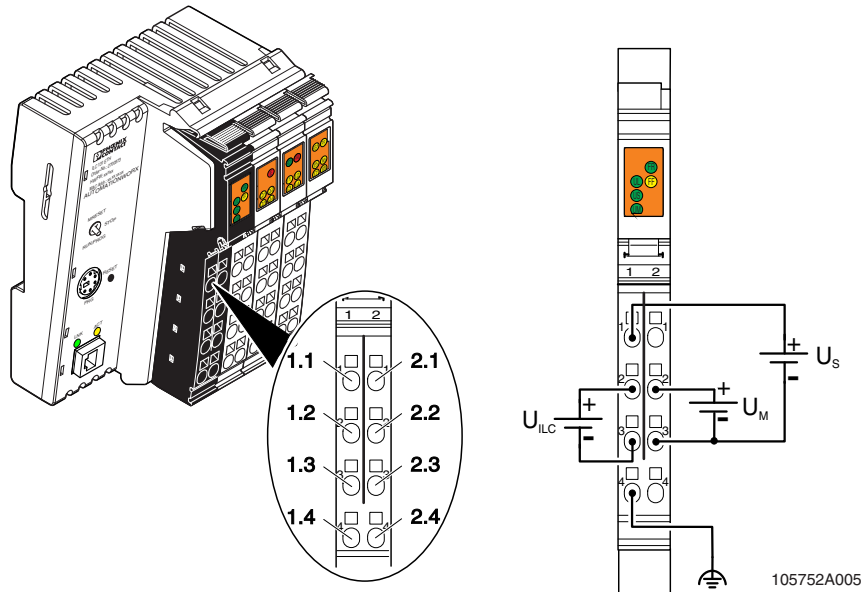

Figure 3-15 Connecting the supply voltage
- Connect the supply voltage to the Inline controller, as shown in Figure 3-15.